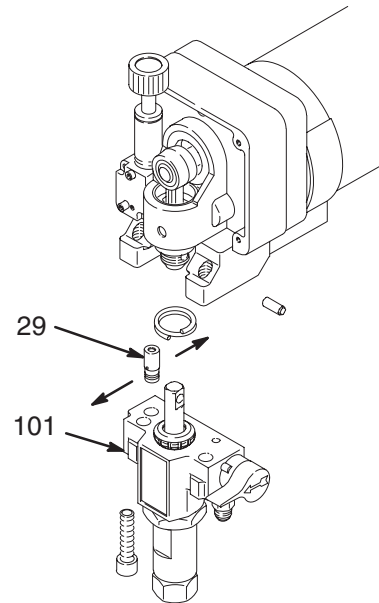

Fig. 17
**NOTE:** See Fig. 17 for this procedure.
2. Use a pull-twist motion to remove the transducer (29) from the pump manifold (101).
6. Align the holes in the transducer as shown by the arrows in Fig. 17.